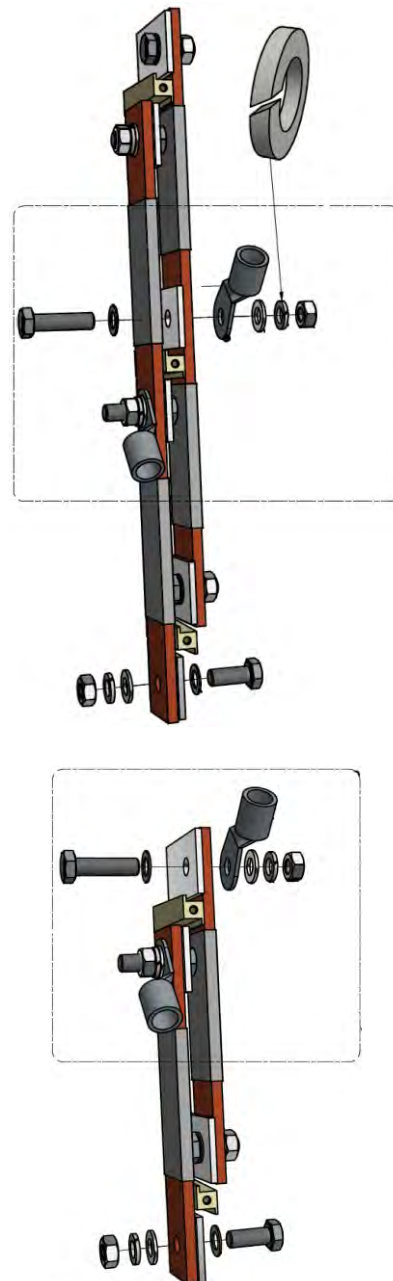

fig. 3 - 2
- See example drawings for different number of units in the M/S application note. See fig 3 - 2.